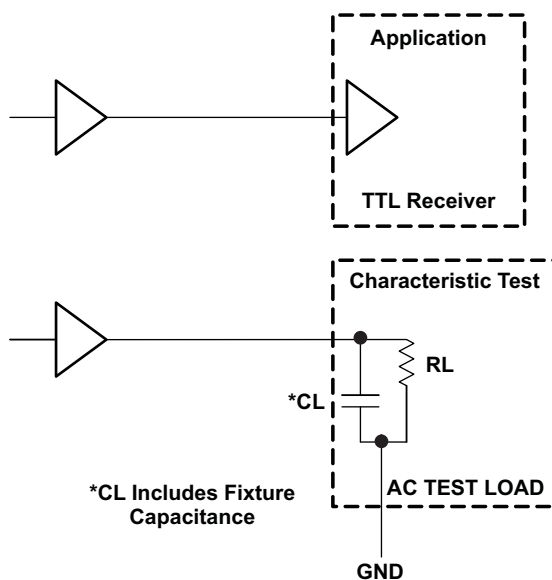

Figure 4. TTL Output Loading Used for Device Evaluation
- (1) Device will meet the specifications after thermal equilibrium has been established when mounted in a test socket or printed circuit board with maintained transverse airflow greater than 500 lfm. Electrical parameters are assured only over the declared operating temperature range. Functional operation of the device exceeding these conditions is not implied. Device specification limit values are applied individually under normal operating conditions and not valid simultaneously.
- (2) Input parameters vary 1:1 with V_{CC} . V_{CC} can vary $\pm 0.3\text{ V}$.
- (3) TTL output $R_L = 500\ \Omega$ to GND and $C_L = 20\text{ pF}$ to GND see Figure 4.
- (4) F_{max} assures for functionality only; V_{OL} and V_{OH} levels are assured at DC only
- (5) Skews are measured between outputs under identical conditions.
- (6) Measured with $V_{ID} = 1.5\text{ V}_{PP}$ at $V_{CM} = 2.0\text{ V}$ and 1.2 V
- (7) 200 mV input assured full logic swing at the output.